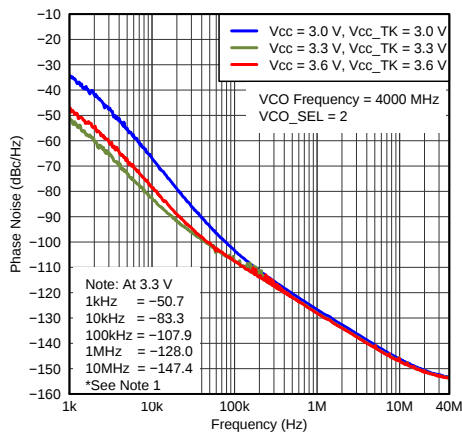
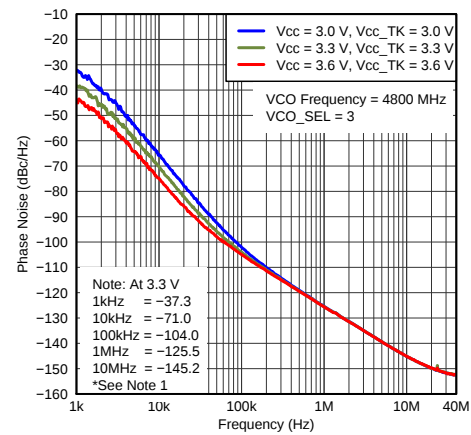

Figure 9. Open-Loop Phase Noise vs Voltage (VCO\_SEL = 2)
Figure 10. Open-Loop Phase Noise vs Voltage (VCO\_SEL = 3)
| Open-Loop Phase Noise                             | vs Voltage (1)                  | Figure 7, Figure 8, Figure 9, Figure 10                                     |